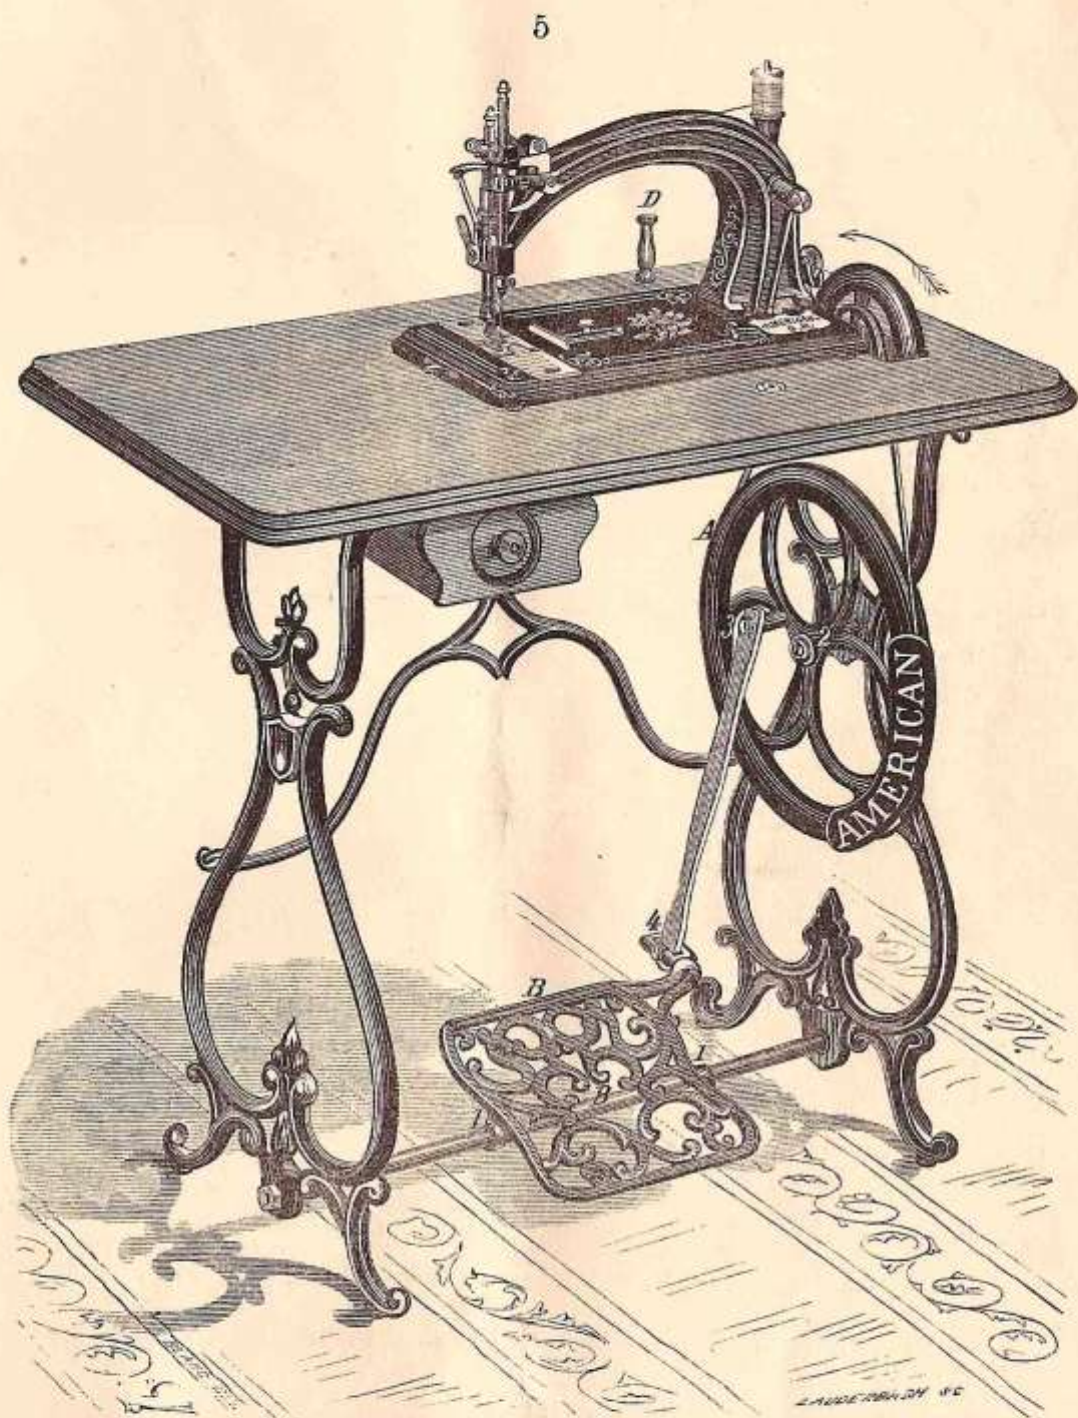
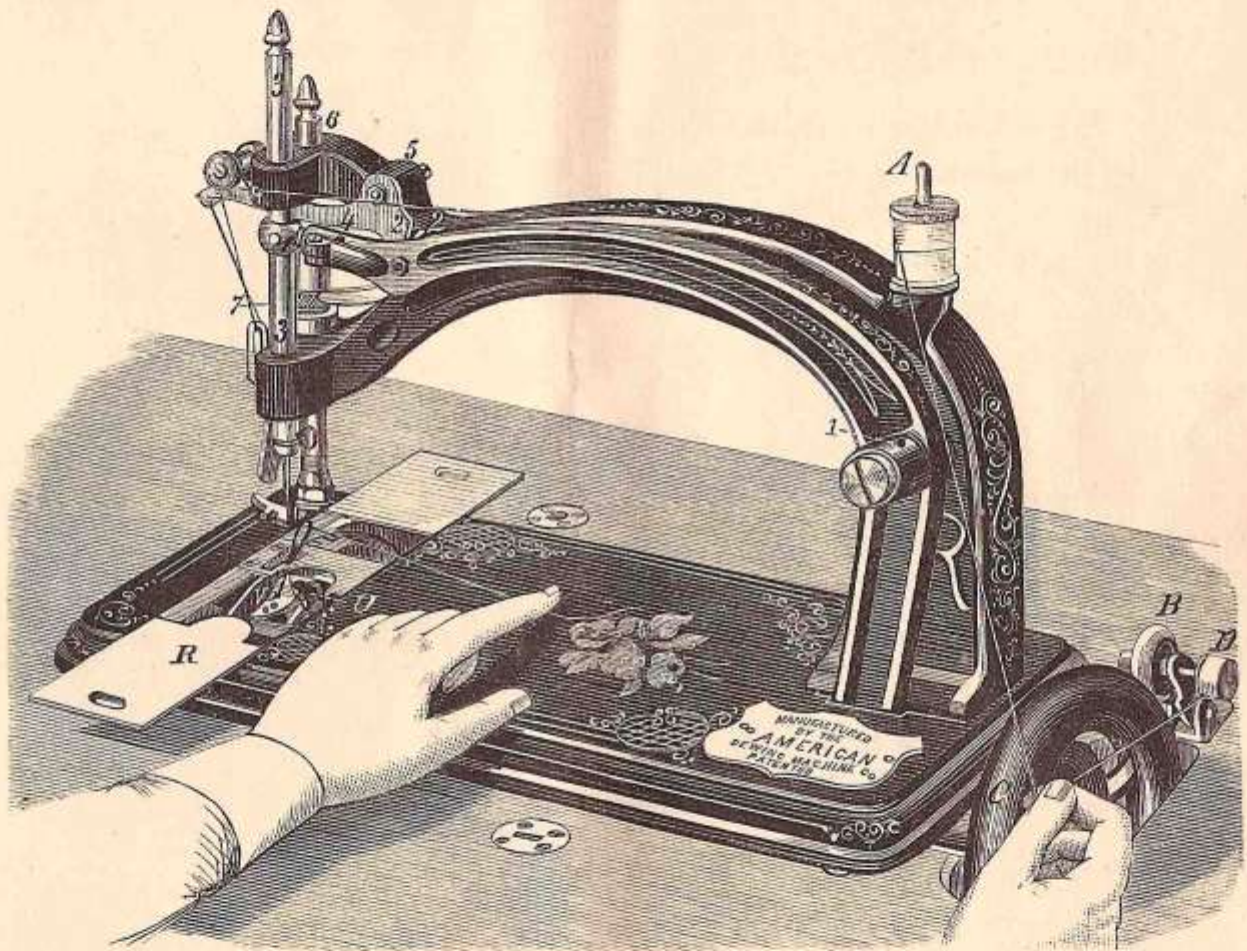
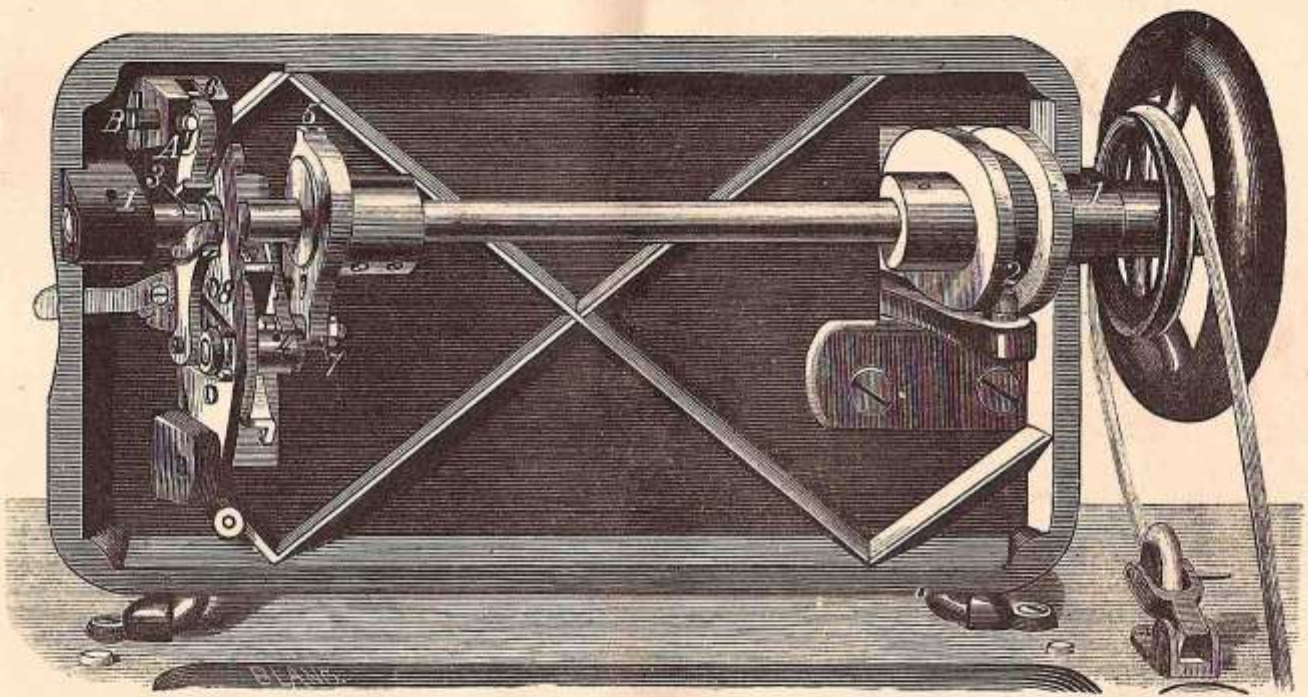

FIGURE 1.
FIGURE 2.
FIGURE 5.
Remove the belt from **fly wheel A** (Fig. 1), place the foot, one (or both) directly over the **treadle bar B**. Press alternately with the heel and toe until you can produce a steady and even motion at pleasure and with ease.
Place the spool on post A, (Fig. 2), bring the bobbin winder B over until the gum ring rests on balance wheel C, press the bobbin on pin D, wrapping the thread tightly around two or three times.
Proceed then to work the machine as in sewing, holding the thread as represented in Fig. 2, winding evenly and not too full, after which return the winder to its former position.
To bring up the lower thread, hold the end of upper thread loosely, as shown in Fig. 2; turn the **balance wheel**, as directed in Fig. 1, until the **needle** rises above the **needle plate**, bringing with it the under thread. Place **both threads** behind the **needle**. Close the **slide R**, and the machine is ready for sewing.
Raise the presser foot off the feed by means of the lever **L**, bring the needle to its highest point, then turn the machine up, as shown in Fig. 5, resting it on the post **D**, (Fig. 1), loosen the set screw **A**, (Fig. 5), and turn it one turn to the left, turn the eccentric **B** until the required height is obtained, then secure it firmly by the set screw **A**.
The eccentric **B**, (Fig. 5), shows its position in ordinary sewing.
The parts requiring oil above the *Base*, (see Fig. 2) are as follows, viz: *Needle Lever* (1), *Take up roller* (2), *Needle bar* (3-3), and occasionally a drop on *Needle bar connection* (4), *Take up stud* (5), *Presser bar* (6), *Presser foot guide* (7), *Bearings on Bobbin winder* (B) and *Shuttle race* (V.)
The parts requiring oil under the *Base*, (see Fig. 5), are *Shaft bearings* (1-1), *Needle lever roller* (2), *Feed bar and Shaft bearings* (3), *Shuttle driver* (4), *Eccentric connection* (5), and occasionally *Feed bar slot* (6), *Eccentric connection stud* (7) and *Feed bar stud screw* (8.)
The parts requiring oil on the *Stand*, (see Fig. 1), are *Treadle cones* (1-1), *both ends of Fly wheel bearings* (2), *Fly wheel crank screw* (3) and *Treadle pin* (4.)
Raise the **needle** to its highest point and turn the **presser-foot** to one side, as shown in Fig. 2, with the small wrench loosen the **nut P** at the lower end of **presser bar**. Remove the **presserfoot** and replace with the **hemmer**. Then lower the foot on the first point of **presserfoot lever L**, which holds the hemmer off the needle plate. Turn the edge of the goods over about a quarter of an inch and insert in the end of the **hemmer**, as shown in Fig. 6, taking care that the edge lays above the spring of the **hemmer**. Push it through until the needle enters the hem, proceed to sew and keep the edge turned as it feeds through.